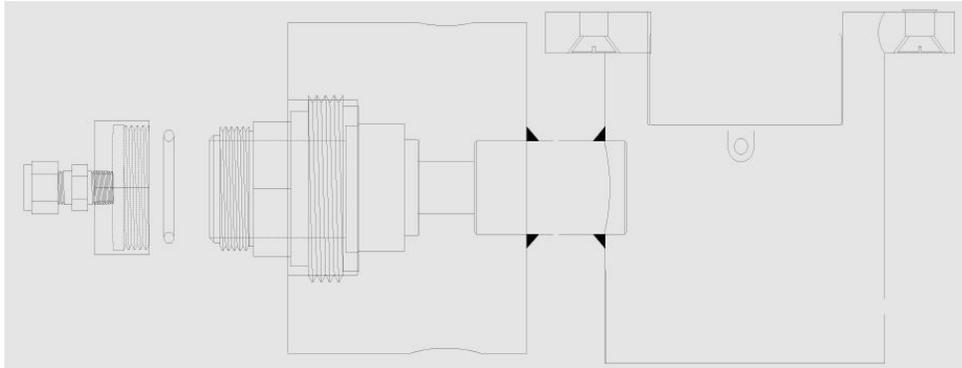
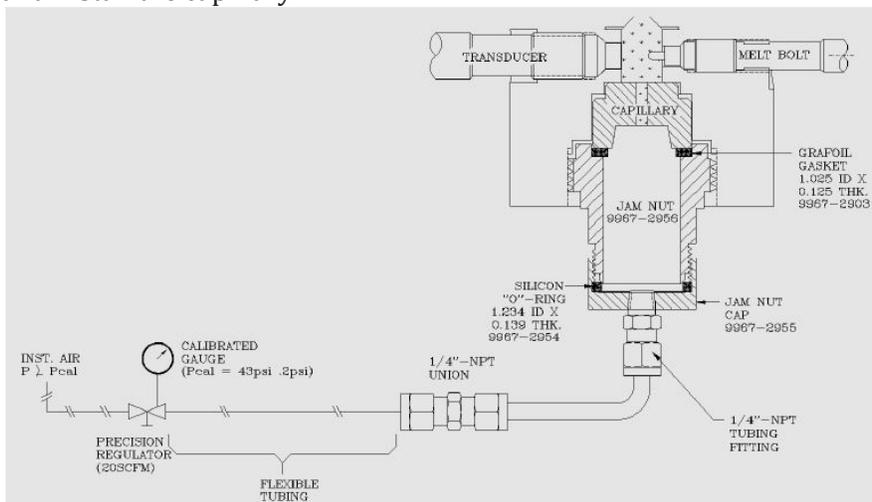

Figure 19 Calibration Adapter
Figure 20 DWT Connection
4. Install the cal adapter as shown in figure 19 (note: remember the o-ring) and connect the dead weight test (DWT) as show in figure 20. Open the DWT to atmosphere.